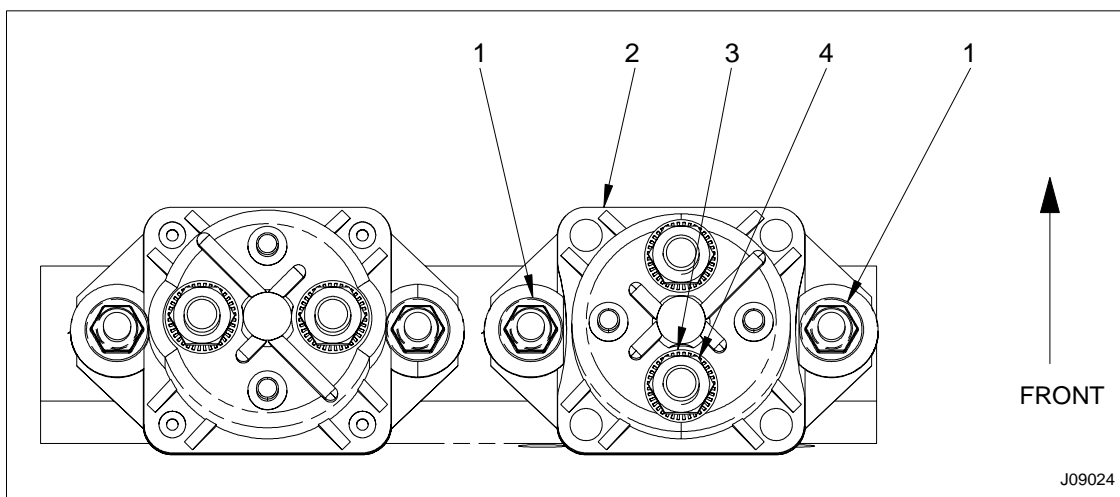

Figure 496 Glow plug relay mounting connections
6. Loosen and remove the two nuts 1 (Figure 496) securing the glow plug relay 2 (Figure 496) to the support bracket.
7. Remove glow plug relay 2 (Figure 496) from the support bracket.